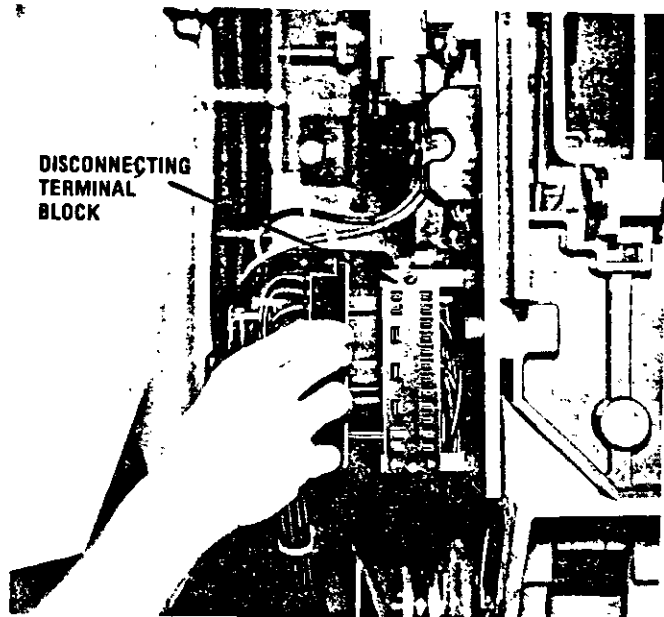
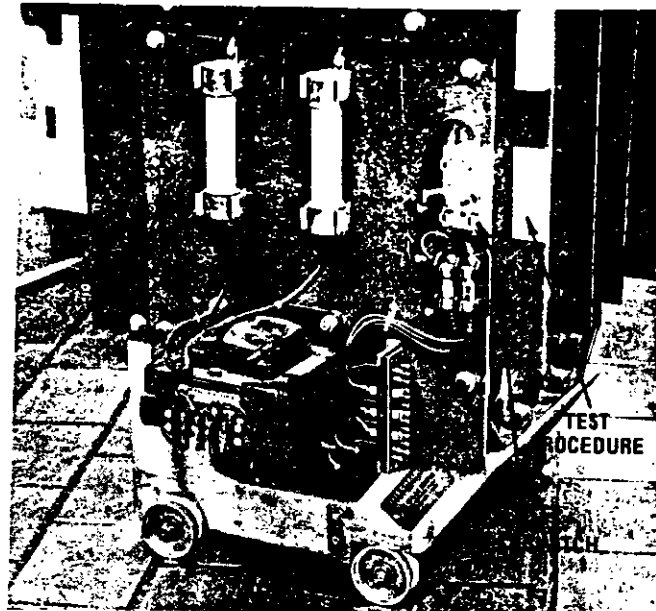

Fig. 19 - The disconnecting terminal block connects all secondary wiring to the carriage.
Fig. 20 - Knife switch used to test controller.
8. Remove control circuit plug from clamp on left side of compartment and plug into mate on carriage. (See Fig. 19.) Tighten the two fasteners and check that all leads are secure to plug-in block. **CONTROLLER TEST.** The controller can be tested in this position. See the instruction label posted to the carriage next to the knife switch for test procedure. (See Fig. 20.) After a successful test, **MOVE THE CARRIAGE SWITCH INTO THE NORMAL (UP) POSITION,** turn the external racking door handle upwards, so the pointer indicates open, and close the compartment door. The door handle bearing must mate with the shaft when the flat spot on the shaft is facing upward. (See Fig. 13.) If the handle does not fit, adjust as shown on page 13.